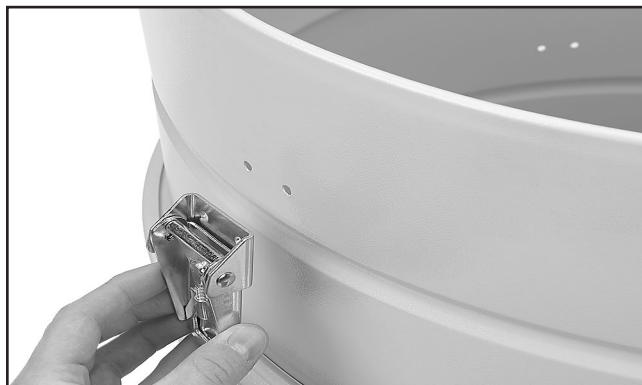

Figure 26. Installing drum latches on collector drum.
16. Install the drum latches, as shown in **Figure 26**, with the (6) #10-24 x $\frac{3}{8}$ " Phillips head screws and (6) #10-24 hex nuts included in the box with the drum latches. Make sure the hex nuts are on the outside of the drum so that they will not snag the plastic collection bag.